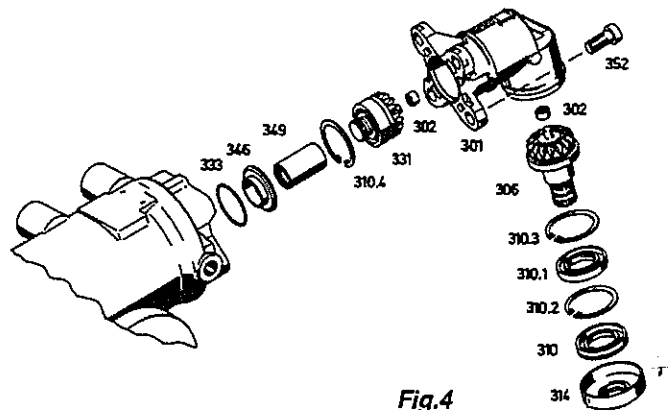

Fig.4
Unscrew hexagon screw (352) and remove complete bevel box (*see Fig.4*).
Remove protecting cap (314) and draw off shaft seal (310) with tool [33] (*see Fig.4*).
Unspring retaining ring (310.3) and remove any burr produced (*Fig.4*).